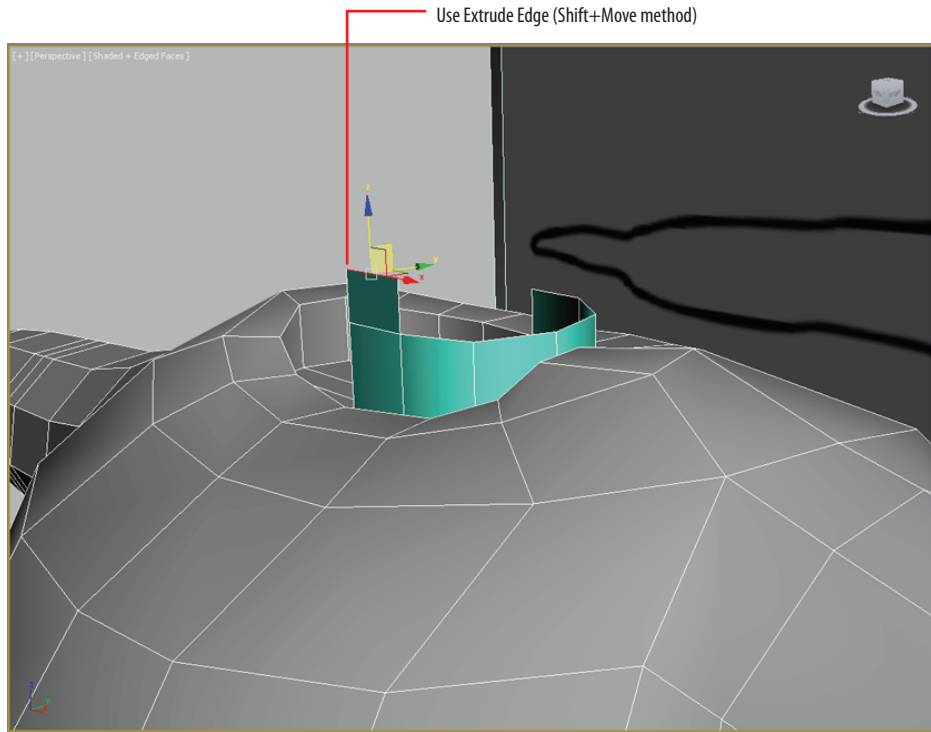

FIGURE 9.3 Begin the creation of the neck with Extrude.
10. Move the edge up along the Z-axis, as shown in Figure 9.3.